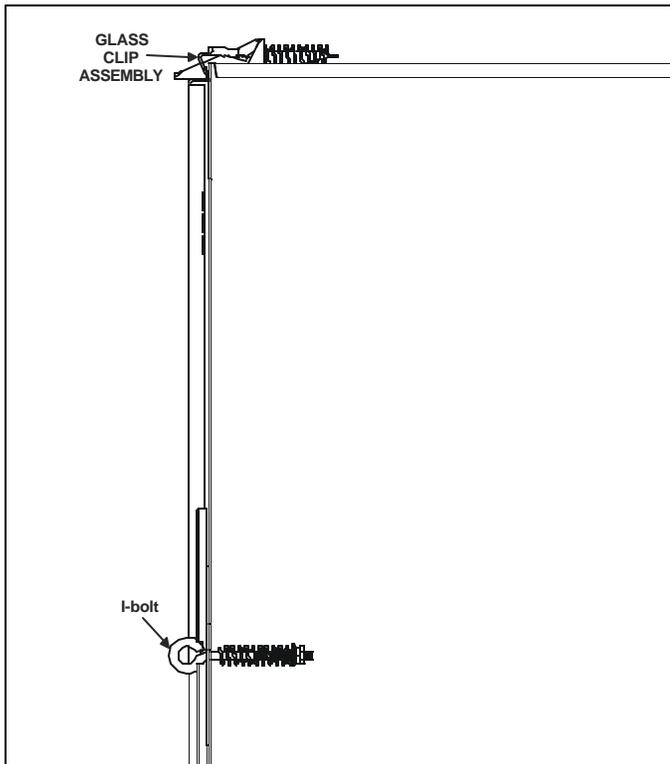

Figure 28. Glass Assembly
- Glass can now be reinstalled, followed by glass clips and I-bolts (see Figure 28). I-bolts can be fastened by using a special hook tool that is shipped with the fireplace. Finish the installation by installing decorative door.
Note: When removing or replacing the glass, use the special hook tool provided with the fireplace to turn the I-bolts to a 45° angle for ease of operation. The I-bolts can then be moved through the slots in the glass frame with the special hook tool provided. Make sure the I-bolts end up in the orientation shown in Figure 28 when installation is complete.